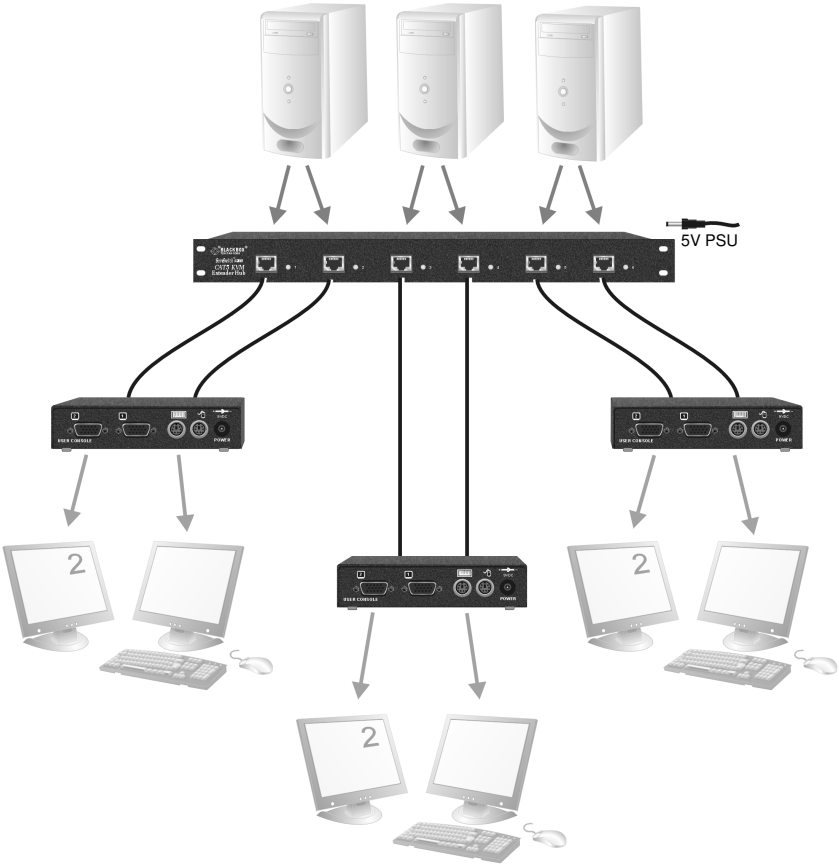

Figure 11 ACU1006RA rack used with ACUR002A units to extend dual video
- With multi-head Remote units, using adjacent hub ports to transmit the primary video/data and secondary video signals (see Figure 11).